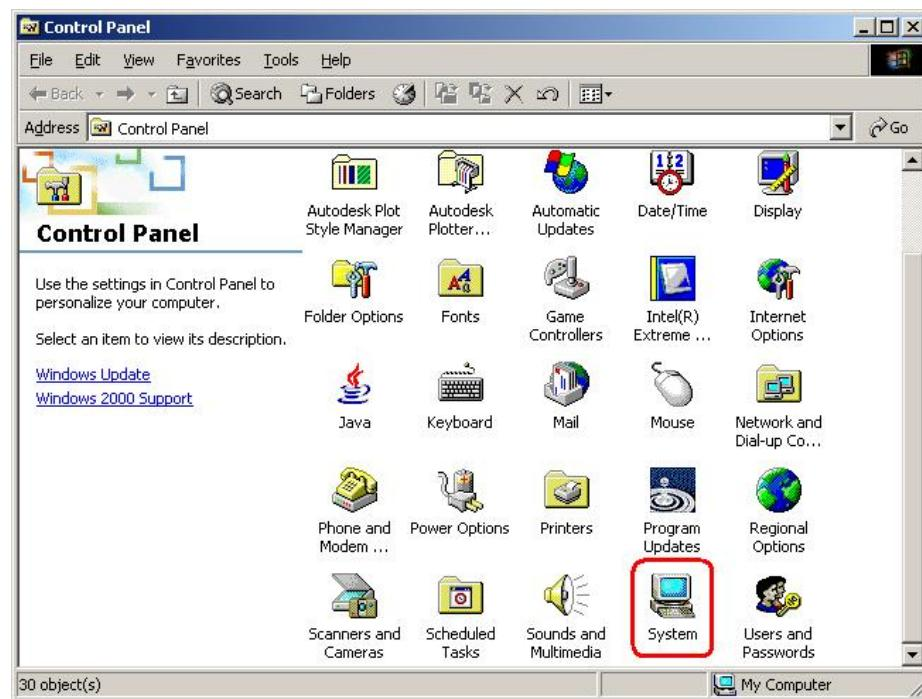

Figure 7-4: Double Click the System Icon
Step 2: Double click the **System** icon (**Figure 7-4**).